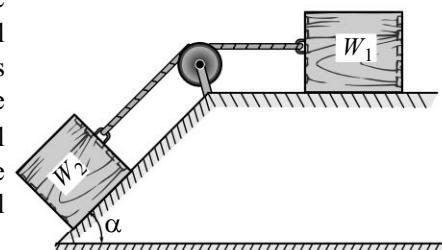

Fig. 8.E10
11. Two inclined planes AC and BC inclined at 60° and 30° to the horizontal meet at a ridge C , as shown in Fig. 8.E11. A mass of 100 kg rests on the inclined plane BC and is tied to a rope, which passes over a smooth pulley at the ridge, the other end of the rope, being connected to a block of $W \text{ kg}$ mass resting on the plane AC . Determine the least and greatest value of W for the equilibrium of the whole system.